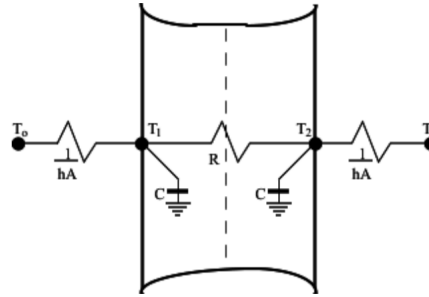

Figure 2.1: 3R2C lumped parameter configuration for a wall.
- Remember that in the popular **3R2C** parameter configuration as shown in Figure 2.1, each of the thermal capacitance coefficients  $C$  are considered equivalent. In which case: